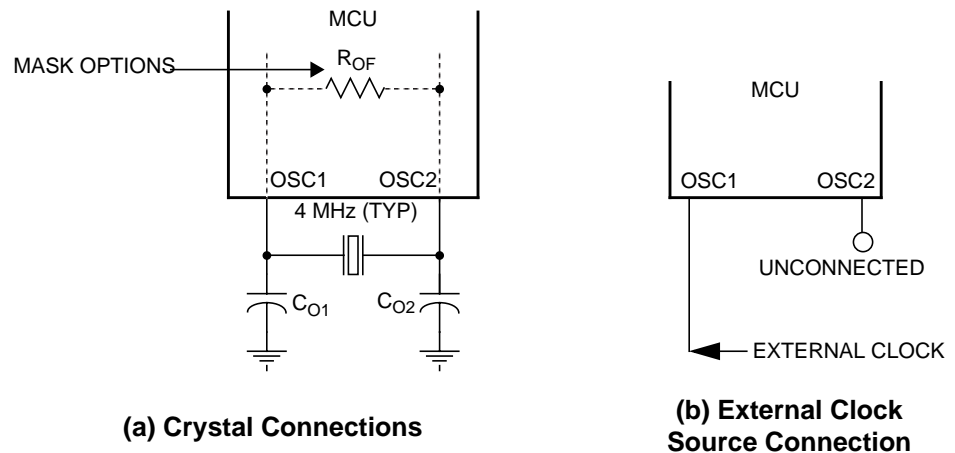

Figure 1-3. Oscillator Connections
- A crystal as shown in Figure 1-3\(a\)
- An external clock signal as shown in Figure 1-3\(b\)
The circuit in Figure 1-3\(a\) shows a typical 2-pin oscillator circuit for an AT-cut, parallel resonant crystal. The crystal manufacturer's recommendations should be followed, as the crystal parameters determine the external component values required to provide maximum stability and reliable startup. The load capacitance values used in the oscillator circuit design should include all stray capacitances. The crystal and components should be mounted as close as possible to the pins for startup stabilization and to minimize output distortion. An internal startup feedback resistor of R_{OF} between OSC1 and OSC2 may be selected as a mask option for MC68HC05L16. Typical R_{OF} resistor value is 5.5 M Ω .
An external clock from another CMOS-compatible device can be connected to the OSC1 input, with the OSC2 input not connected, as shown in Figure 1-3. This configuration is possible regardless of how the oscillator is set up.